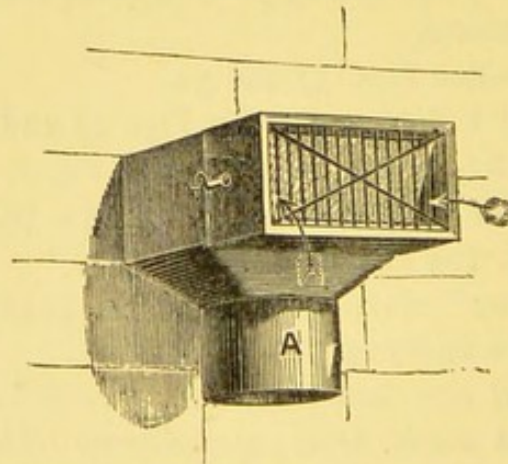
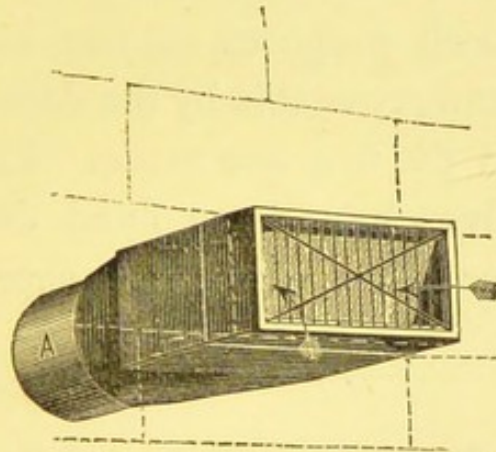

FIG. 116.—View of "Mica-valve"—Vertical.
FIG. 117.—View of "Mica-valve"—Horizontal.
Fig. 116 shows a *perspective view* of a "mica-valve" for fixing on the top of a *vertical* induct-pipe, and Fig. 117 shows a view of one for fixing on the end of a *horizontal* air induct-pipe. They are made in various sizes, to fit pipes from 2 in. to 4½ in. diameter.
F.—*Foot ventilation.*—This is an air induct-pipe for the admission of fresh air into foot of the soil-pipe, with a mica-valve over its mouth to prevent any vitiated air coming out at this point.—See Fig. 116, p. 262.